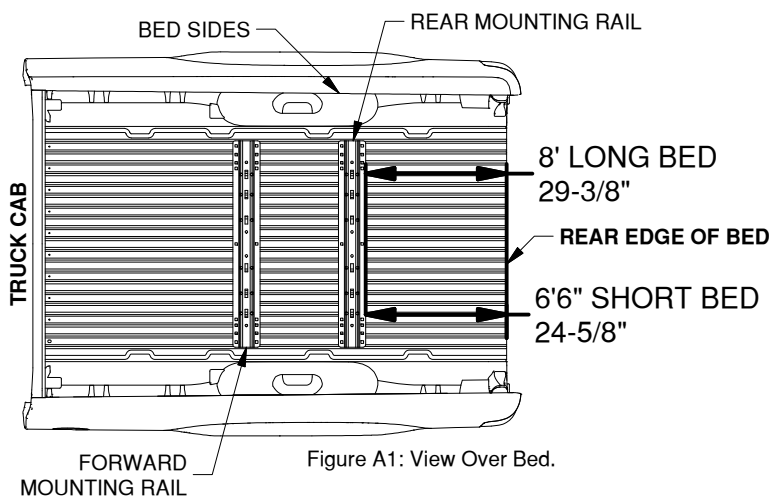

Figure A1: View Over Bed.
- Layout the rear mounting rail.** Place a mounting rail onto the bed of the truck. Hook a tape measure over the rear edge of the bed (not on any part of the tailgate), measure the location for the mounting rail as shown in Figure A1. Next, center the mounting rail in the bed by measuring the distance on either side from the edge of the rail to the sides of the bed. The rail will be centered when both measurements on either side of the rail are the same.